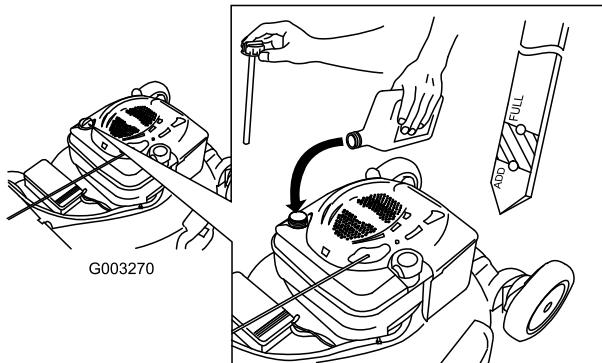

Figure 15
1. Remove the dipstick, wipe it clean, and fully install the dipstick (Figure 15).
2. Remove the dipstick and check the oil level (Figure 15). If the oil level is below the Add mark on the dipstick, slowly pour oil into the oil fill tube to raise the oil level to the Full mark on the dipstick. **Do not overfill.** (Max. fill: 20 oz. (0.59 l), type: SAE 30W detergent oil with an API service classification of SF, SG, SH, SJ, SL, or higher.)